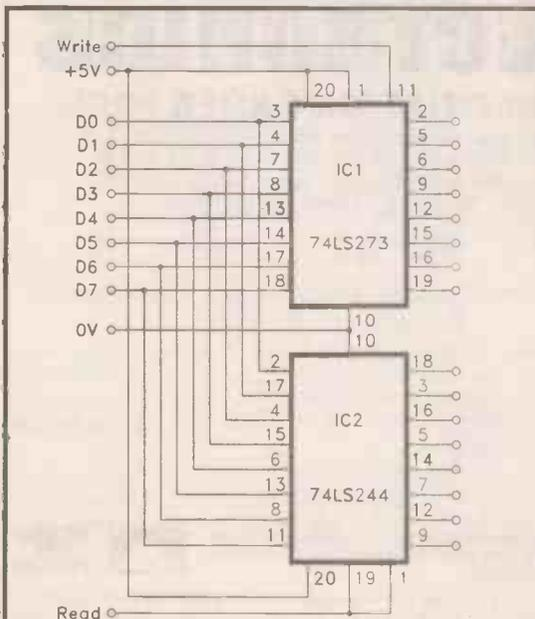

Fig. 1. Simple circuit for providing 8-bit input and output ports for use with the address decoder circuits provided last month.
In order to produce basic input/output ports from the address decoder circuits it is merely necessary to add a tristate buffer to provide an eight bit input, and an octal latch to provide an 8 bit latching output. A suitable circuit is shown in Fig.1.
The complete circuit for the Electric Blanket Shut-Down is shown in Fig. 1. With switch S2 (ON) pressed, mains current flows through transformer T1 primary. Diodes D2 and D3 operate as a conventional full-wave rectifier in conjunction with the centre-tapped secondary winding of T1. Capacitor C2 smooths the d.c. supply to the rest of the circuit. Fuse FS1 protects the low-voltage section.